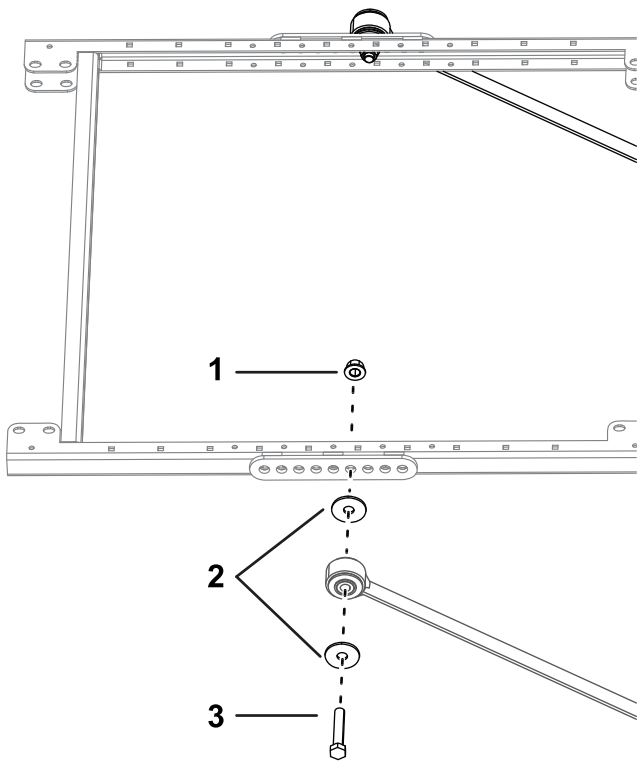

Figure 12
12. On each side of the sunshade frame, loosely mount an extension link to the fourth hole of the brace mount with 2 bolts (1/2 x 2-3/4 inches), 2 large washers, and 2 flange nuts (1/2 inch) as shown in Figure 12.